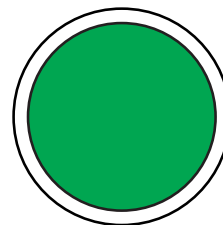

Figure 46. Circuit Breaker ON Button (ON/GREEN)
- Press the **Circuit Breaker ON button** (Figure 46). The button LED will turn **ON (green)** and power will be supplied to the output terminals , cam-loks, and receptacles.
3. The main circuit breaker will automatically turn **ON** after the engine starts. Observe that the LED on the **Circuit Breaker ON button** has turned **ON (green)**. See Figure 46.